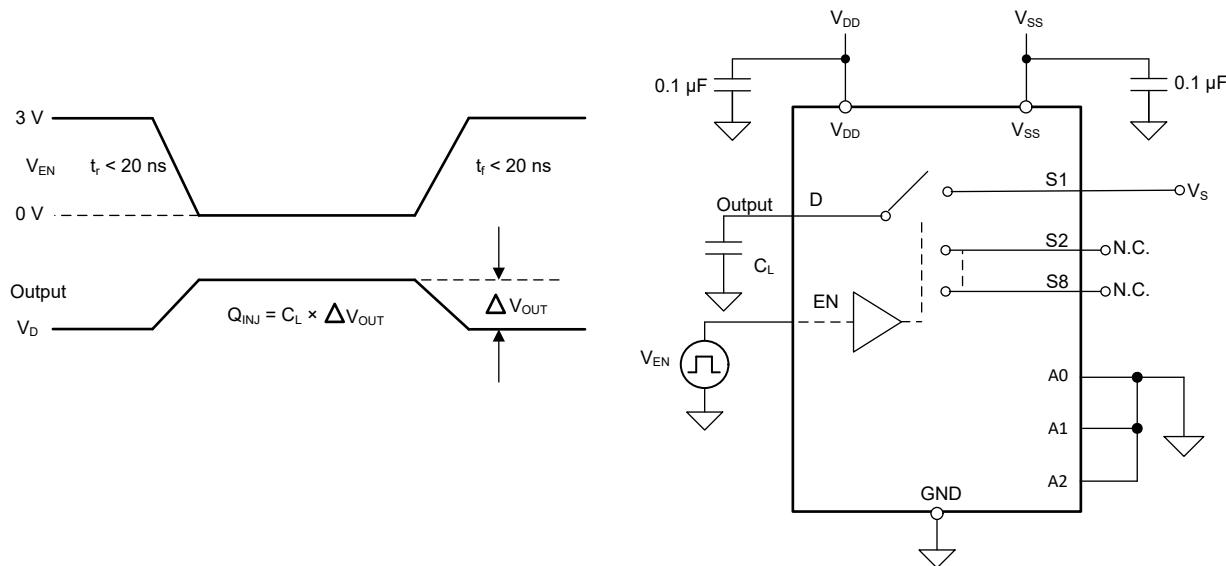

图 7-9. Charge-Injection Measurement Setup
The TMUX7208 has a transmission-gate topology. Any mismatch in capacitance between the NMOS and PMOS transistors results in a charge injected into the drain or source during the falling or rising edge of the gate signal. The amount of charge injected into the source or drain of the device is known as charge injection, and is denoted by the symbol Q_{INJ} . 图 7-9 shows the setup used to measure charge injection from source (Sx) to drain (D).
The TMUX7208 and have a transmission-gate topology. Any mismatch in capacitance between the NMOS and PMOS transistors results in a charge injected into the drain or source during the falling or rising edge of the gate signal. The amount of charge injected into the source or drain of the device is known as charge injection, and is denoted by the symbol Q_{INJ} . 图 7-9 shows the setup used to measure charge injection from source (Sx) to drain (D).